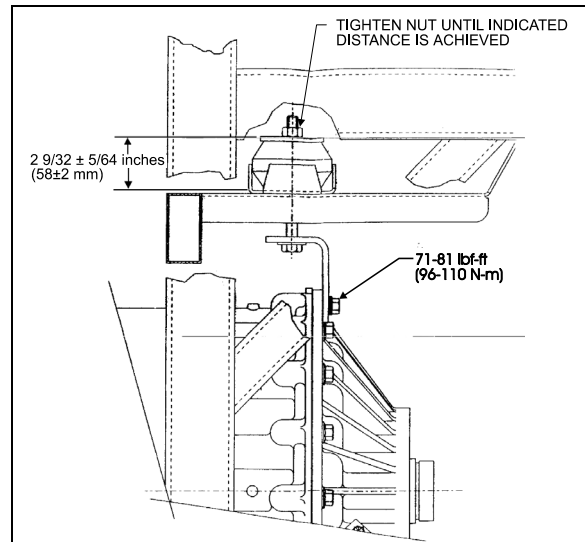

FIGURE 17: RUBBER DAMPER TOLERANCE
- a) Install transmission bracket (Fig. 17), tighten to 71-81 lbf•ft (96-110 N•m).
- c) Respect damper tolerance of 58 mm (Fig. 17).